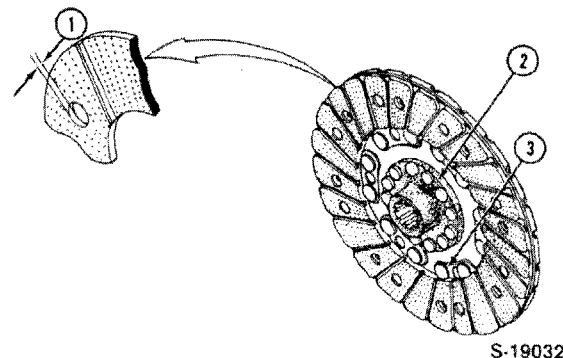

Figure 6
Reference — Figure 6
4. Inspect the clutch disc lining for excess wear. Replace the clutch disc if the lining is worn to less than .012 in. (.3 mm) from the top of the rivet heads, Figure 6.